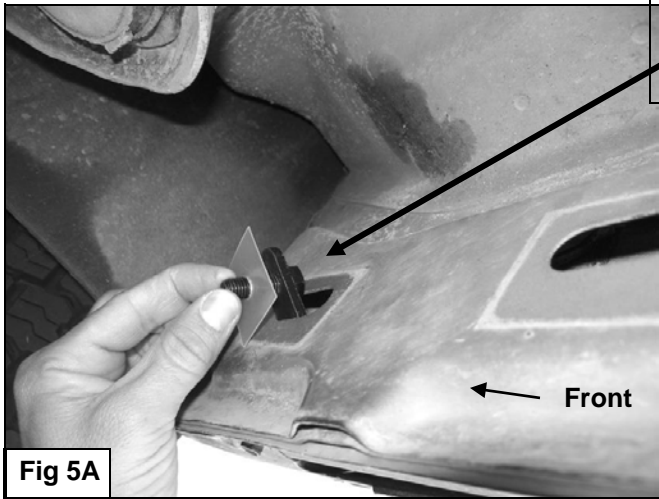

Fig 5A
5. Remove the tape covering the factory hole in the back side of the lower body panel near the Mounting Bracket, **(Figures 1 & 3)**. Thread (1) Plastic Retainer part way onto (1) 10mm x 35mm Bolt Plate, **(Figure 4)**. Insert the Bolt Plate into the factory hole on the body panel, **(Figure 5A)**. Hold the Bolt Plate in place with one hand and continue to thread the Plastic Retainer down against the sheet metal to hold the Bolt Plate in place, **(Figure 5B)**.